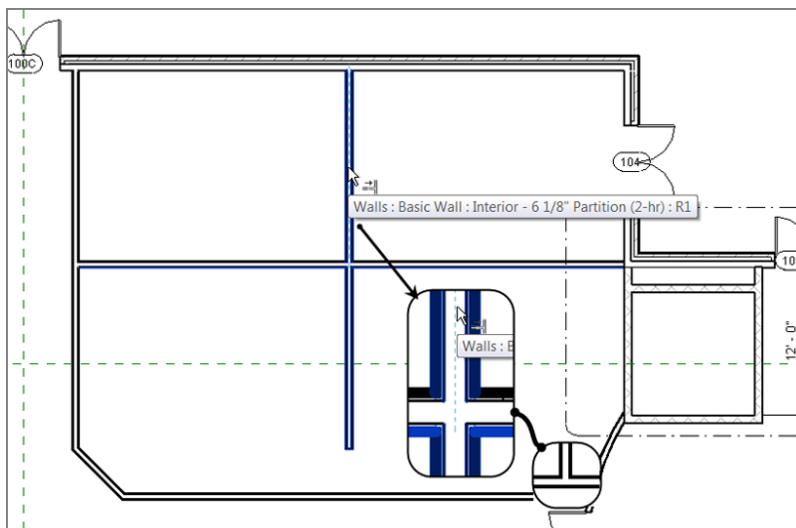

FIGURE 4.46: Pick a point along the wall you want to keep.
6. Now you must pick a point along the vertical wall. The trick here is that you must pick a point on the side of the wall that you want to *keep*. Pick a point along the vertical wall above (north of) the horizontal wall, as shown in Figure 4.46. After you do, the wall is trimmed back.